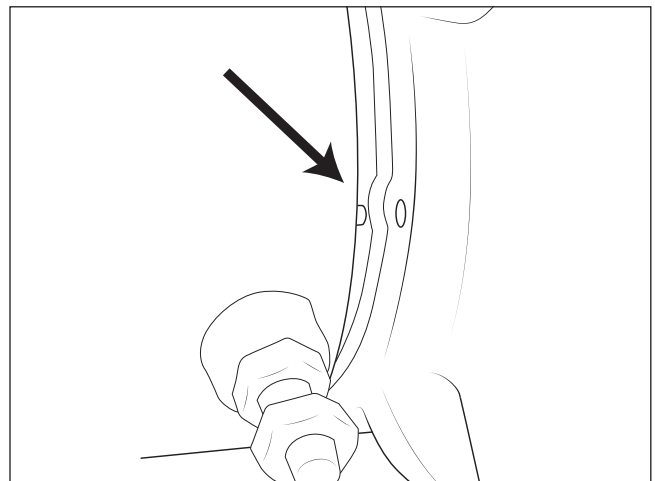

Figure 14
4. Rotate the motor 180°, align the dowel pin with the hole, and slide it back forward (fig. 14).